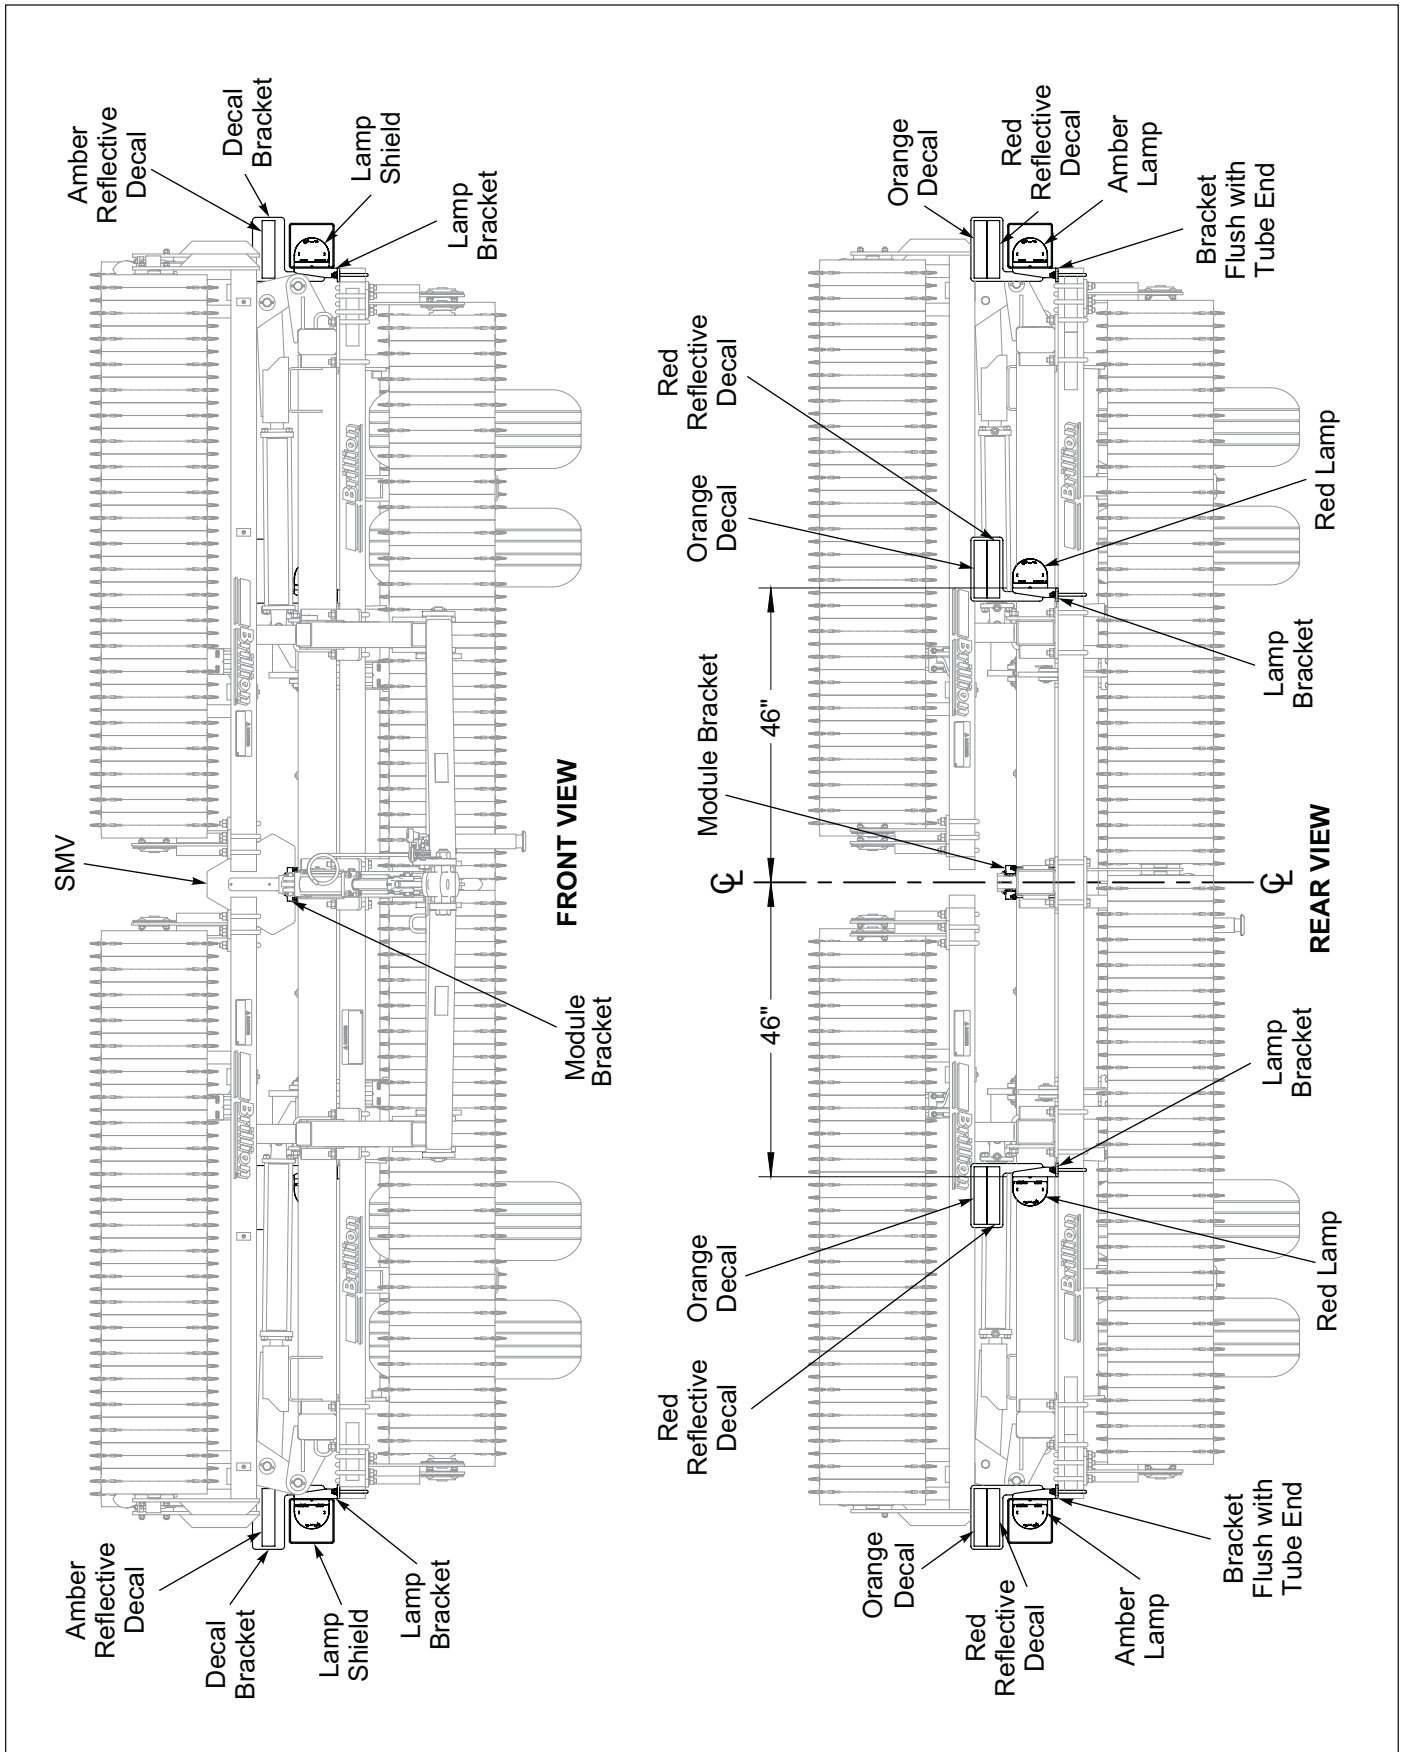

Figure 2-39: LED Warning Lights Installation Dimensions
5. Attach the Light Module to the Light Module Bracket using two 1/4-20 X 1-1/2 Screws and Locknuts. **See Figure 2-39.**